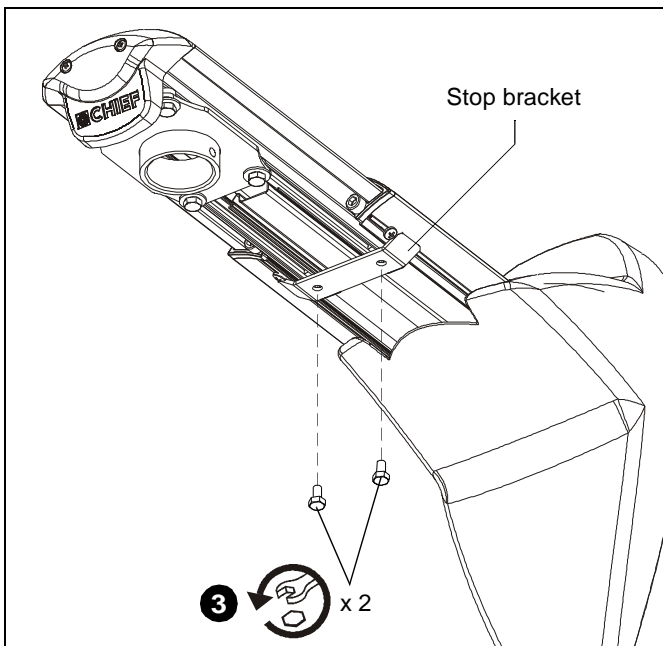

Figure 23
3. Remove two bolts holding stop bracket in place on underside of WMA1S. (See Figure 23)